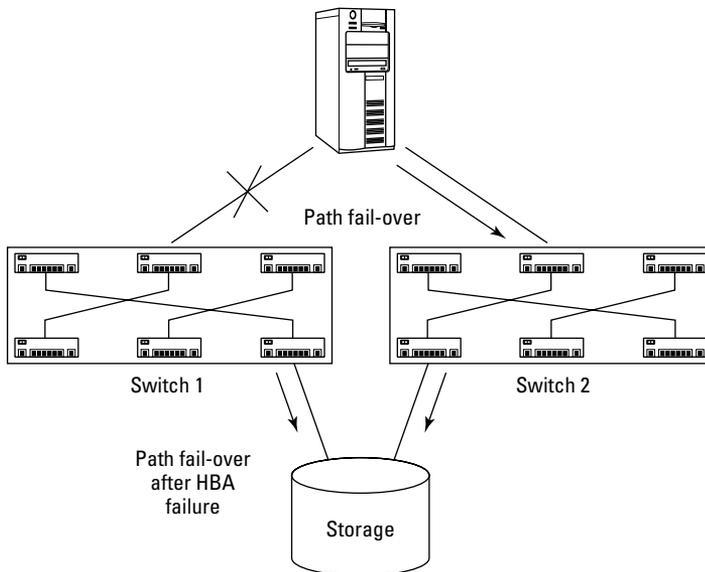

Figure 4-6:
- ✔ **Path fail-over** is the capability of one HBA to take over the load of a bad HBA, so if you lose an HBA to a hardware failure, your server still stays up. (See Figure 4-6.)